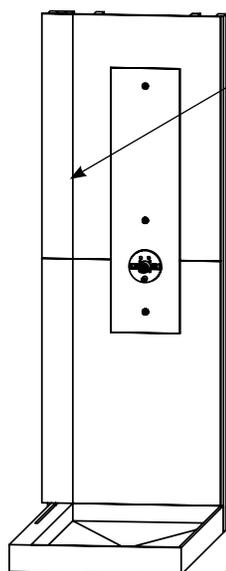

figure 18
5. Use a level to draw a straight vertical line all the way up from the inside edge of the pan on both sides (*fig. 18*). This line will be used as a guide for the placement of the wall panels and thresholds.